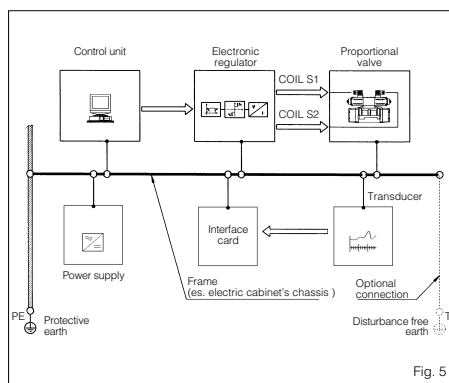

Fig. 5
### 2.2 Proportional valves and electronic drivers (sections F and G) - fig. 5
- Shield all the connections to prevent the interference of electromagnetic disturbances; furthermore, provide the earth connections as shown in fig. 5;